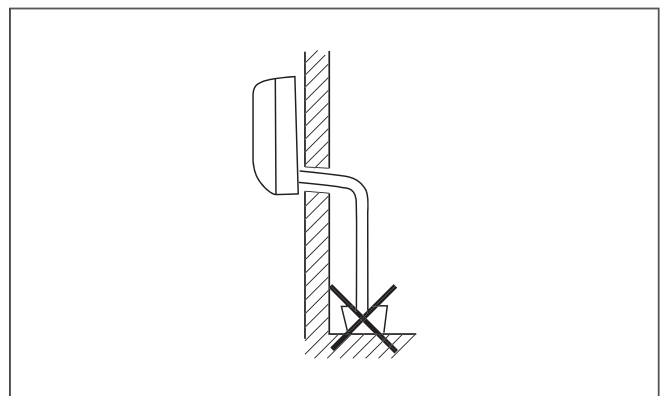

Fig. 9.2 Avoiding submerging the end.
- Avoid installing the condensed water pipe with its free end submerged in water (see Figure 9.2)..